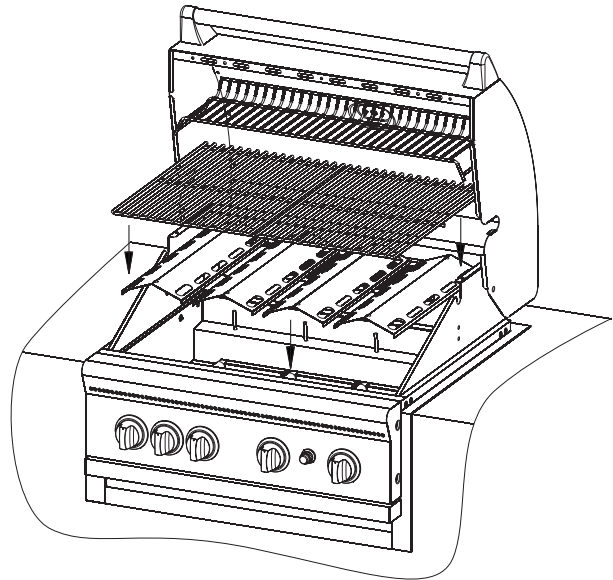

Figure 7
6. Place flame tamers over burners. Pins on burner box fit through holes on flame tamer. See Figure 7.
7. Place cooking grids into grill. See Figure 7.
8. Place warming rack on top of grill body side walls. See Figure 7.